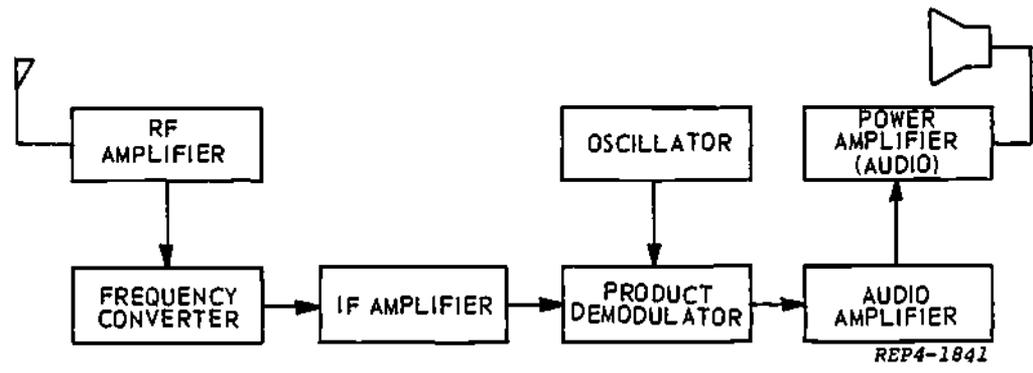

Figure 2. Block Diagram SSB Receiver
5. From the labeled block diagram shown in figure 2, and the list of statements that describe each block of a single sideband receiver, match each block with the proper statement.